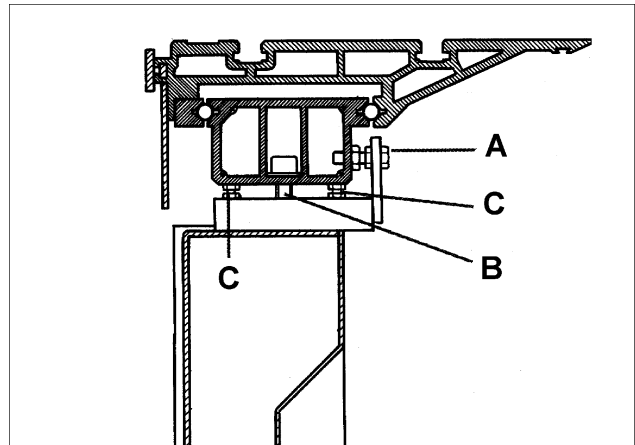

FIGURE 8
2. Use a hoist or forklift with slings to lift the sliding table from its crate. Place the sliding table on to the frame with the two lateral adjustment bolts (A-Fig. 8) in the two lugs placed at the front of the frame.
3. Place the four socket head cap screws (B-Fig.8) into the lower section of the sliding table. NOTE: Prevent the table from flipping over when sliding away the upper section of the sliding table.
4. Tighten firmly the four socket head cap screws (B-Fig. 8).
5. The eight small height-adjustment bolts (C- Fig. 8) are pre-set at the factory.
6. Unlock the four socket head cap screws (B-Fig.8) and adjust with one of the two parallel adjustment bolts (A-Fig. 8).
7. Tighten the four cap screws (B-Fig. 8).